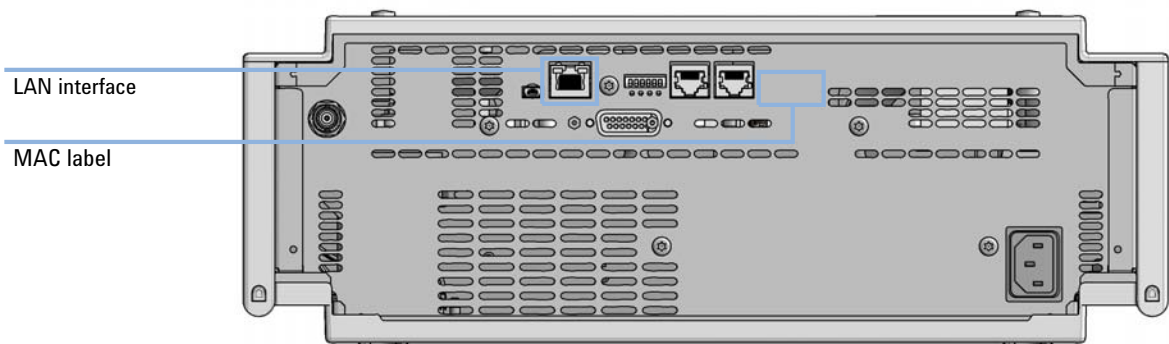

Figure 24 Location of LAN interfaces and MAC label
- 1 Note the MAC (Media Access Control) address for further reference. The MAC or hardware address of the LAN interfaces is a world wide unique identifier. No other network device will have the same hardware address. The MAC address can be found on a label at the rear of the module underneath the configuration switch (see Figure 24 on page 204).
- 2 Connect the instrument's LAN interface (see Figure 24 on page 204) to